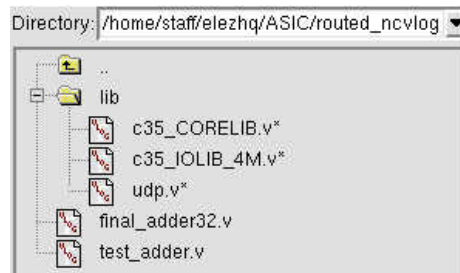

Figure 8-2 Start up of post-layout verification.
6. Start NCLaunch in the working directory – routed\_ncvlog as follows. The files of post-layout verification are shown as figure 8-2 in the NCLaunch window.